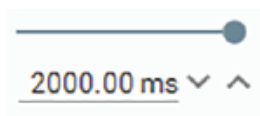

Figure 53: Exposure Controls
**Exposure** determines the amount of time the camera views the beam before reporting a frame. Increasing Exposure yields a higher SNR and a brighter image. Depending on the power density of the beam, setting the Exposure too high can saturate the image, typically around the waist location, and degrade measurement accuracy. Saturation appears white in the image. Use the slider or enter a value in the field to adjust the exposure for the camera (Figure 53).